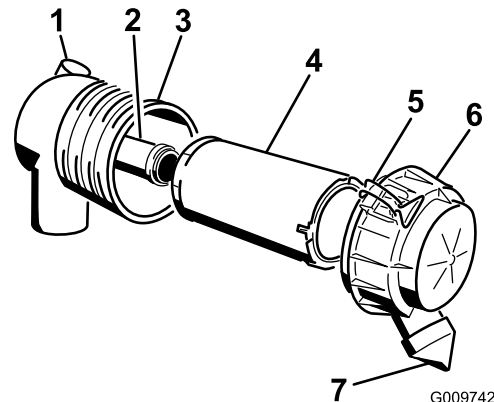

Figure 61
1. Gently slide the primary filter out of the air-cleaner body (Figure 61).
4. If you are replacing the safety filter, carefully slide the new filter into the filter body (Figure 61).
6. Install the air-cleaner cover with the side indicated as "UP" facing upward and secure the latches (Figure 61).